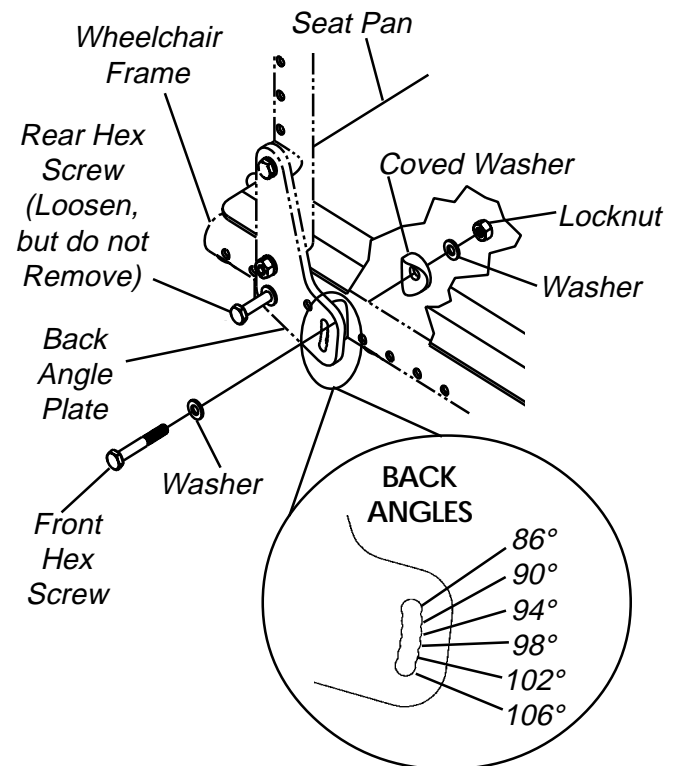

FIGURE 2 - CHANGING THE BACK ANGLE
CHANGING THE BACK ANGLE (FIGURE 2)
4. Position the back angle plate to one (1) of six (6) back angles shown in FIGURE 2.
5. Reinstall the front hex screw, washers and coved washer and securely tighten with locknut. Refer to FIGURE 2 for correct hardware orientation.